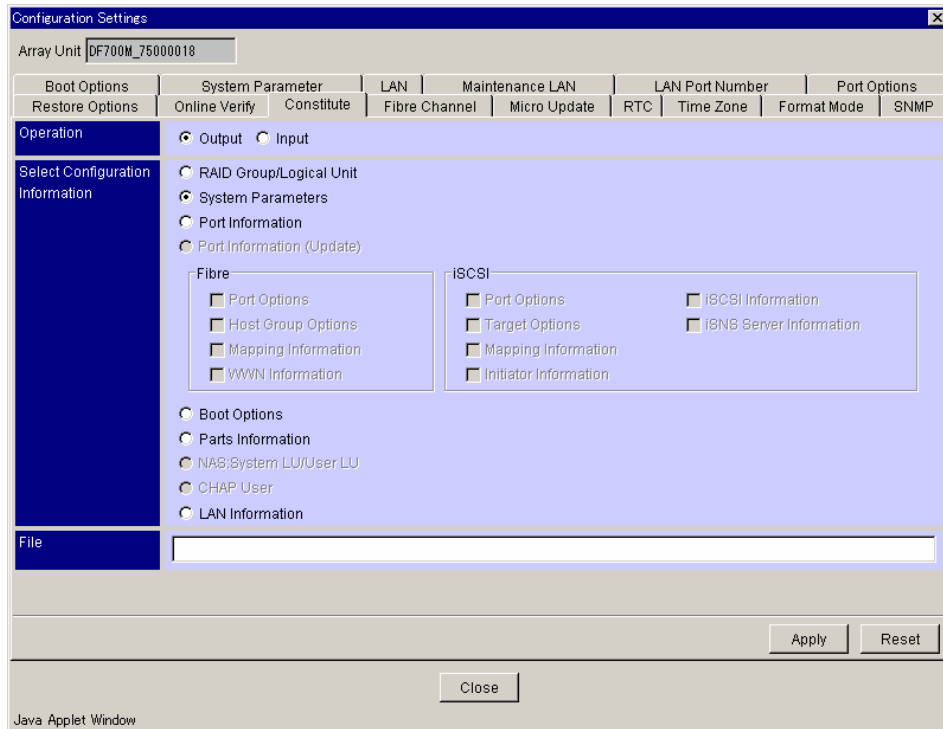

Figure 9.20 Configuration Settings - Constitute panel (Output)
2. Click the **Constitute** tab. See Figure 9.20.